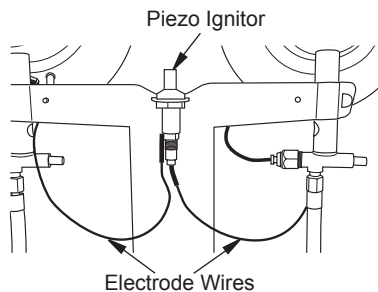

Figure 4 - Attaching Electrode Wires to Piezo Ignitor
5. Attach the electrode wires to the piezo ignitor as shown in Figure 4.